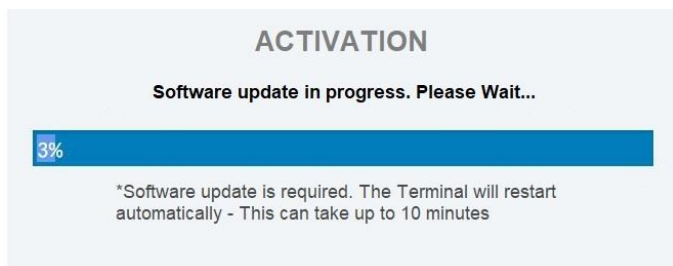

Figure 24
Step 40: The software will be automatically updated (fig. 24)